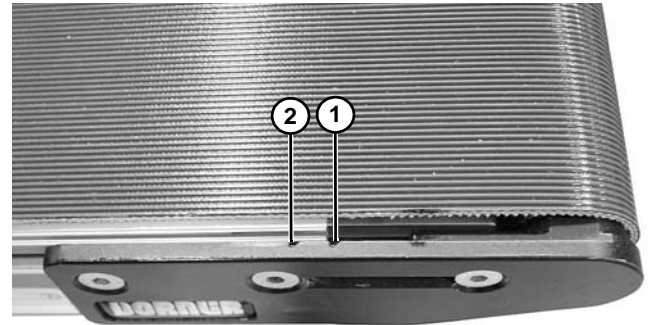

Figure 76
2. Adjust head plate assembly so end of conveyor frame aligns with or between the head plate tensioning marks (**Figure 76, item 1 & 2**). Replace belt if proper tensioning can not be obtained while aligning the end of the conveyor frame with or between the tensioning marks. See NOTE.